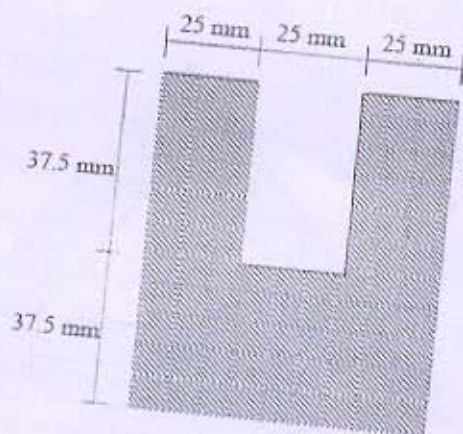

Figure 8
- (b) The beam section shown in **Figure 8** is subjected to a shear force of 40 kN . Sketch the shear stress distribution for the section.